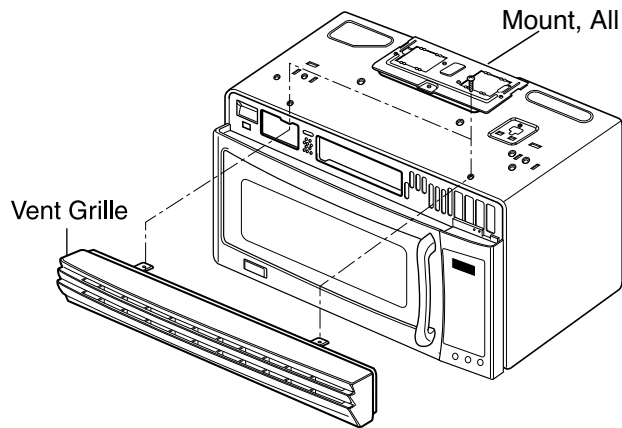
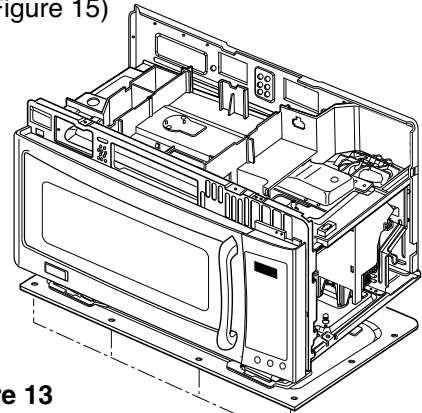
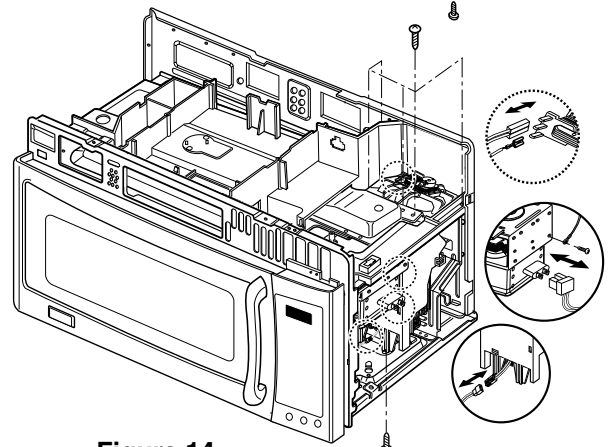
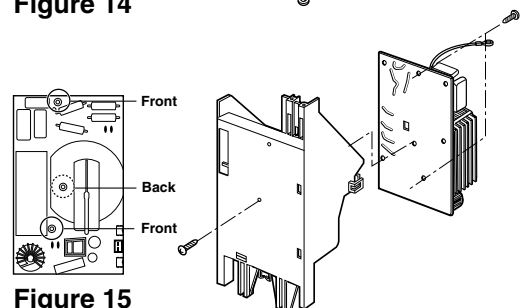

Figure 11
Figure 13
Figure 14
Figure 15
(Figures 11 Through 12)
- (1) Remove the vent grille by loosening two screws. (Figure 11)
- (2) Remove the outcase. See page 7-6.
- (3) Remove four tap tite screws securing the magnetron to the wave guide.
- (4) Remove the magnetron VERY CAREFULLY.
(Figures 13 Through 15)
- (3) Remove the base plate by loosening four screws. (Figure 13)
- (4) Disconnect two leadwires of the fan motor assembly.
- (5) Disconnect the leadwire of the inverter PCB and H.V. cable of the magnetron.
- (6) Remove the earth wire screw.
- (7) Remove three screws securing to duct assembly and two screws securing to fan guide. (Figure 14)
- (8) Remove the screw securing to inverter module assembly.
- (9) Push the inverter guide hook and out the inverter module assembly lifting up duct assembly.
- (10) Open the upper inverter guide.
- (11) Remove three screws securing to PCB and pull out PCB. (Figure 15)